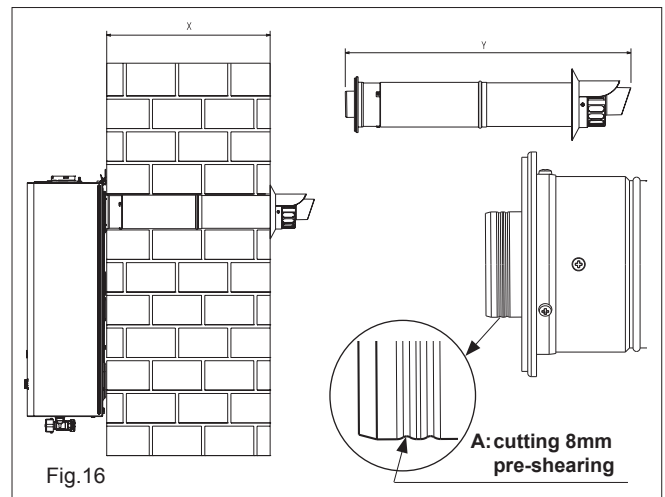

Fig. 16
**4.5.1.2 FITTING THE REAR FLUE (fig. 16) (rear flue outlet only)**
**NOTE:** The inner 60mm pipe of the rear flue terminal must be cut by 8mm at the point indicated (fig. 16 pos. A).